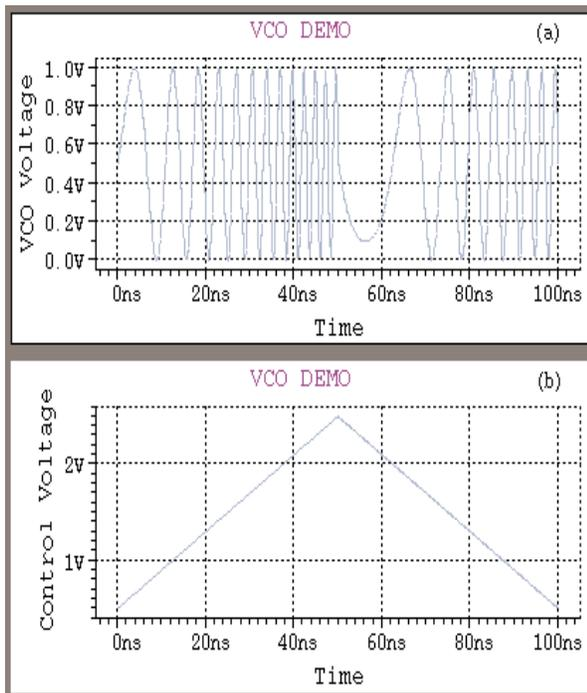

Figure1 An example of VCO frequency controlled by piecewise linear voltage
When expression (1) is applied, it is easy to assume that the frequency of VCO is proportional to the absolute value of control voltage. Sometimes, however, simulations return unexpected results when  $V_{control}$  is an inconstant function of time. An example is shown in Figure 1. The control voltage in this example is a piecewise linear function, and sinusoidal voltage in Figure 1(a) is the corresponding VCO.
This result is unexpected since Figure 1(a) is not symmetrical to Figure 1b. Intuitively, one expects the frequency in Figure 1(a) to reduce gradually after  $t = 50\text{ns}$ , but the simulation result in Figure 1(a) is correct. The rest of this article will show why the result in Figure 1a is correct, and how to use the *SmartSpice* E element to achieve an expected VCO response.